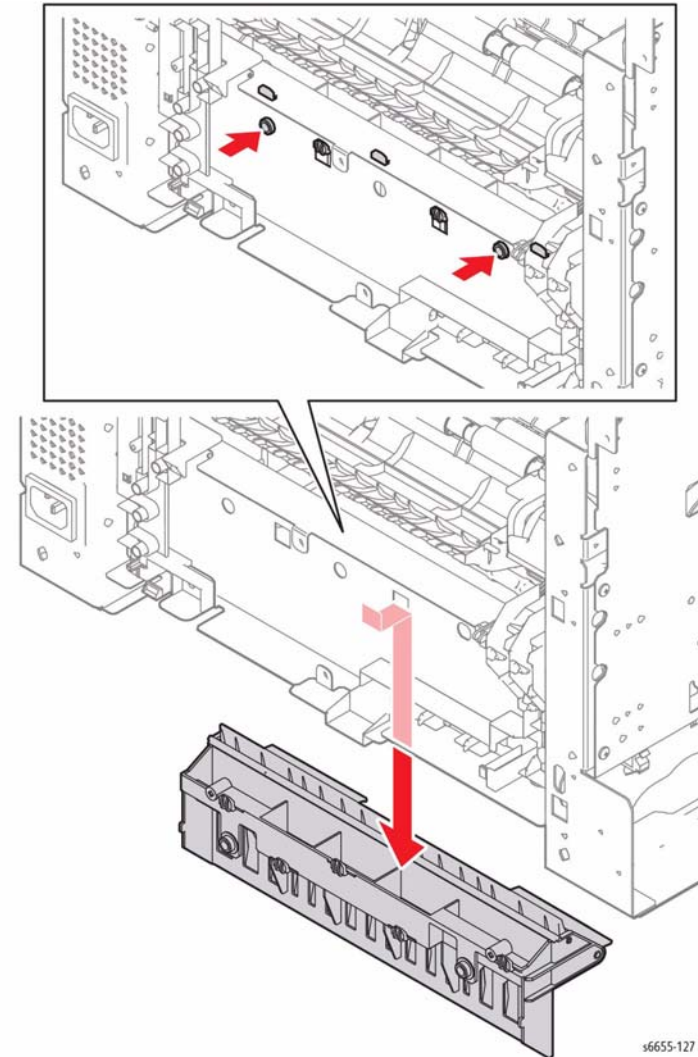

Figure 1 Remove the Opt 550 Registration Chute
2. Refer to Figure 1 to remove the Opt 550 Registration Chute by releasing the two bosses and by sliding the Opt 550 Registration Chute downward to release the hook.